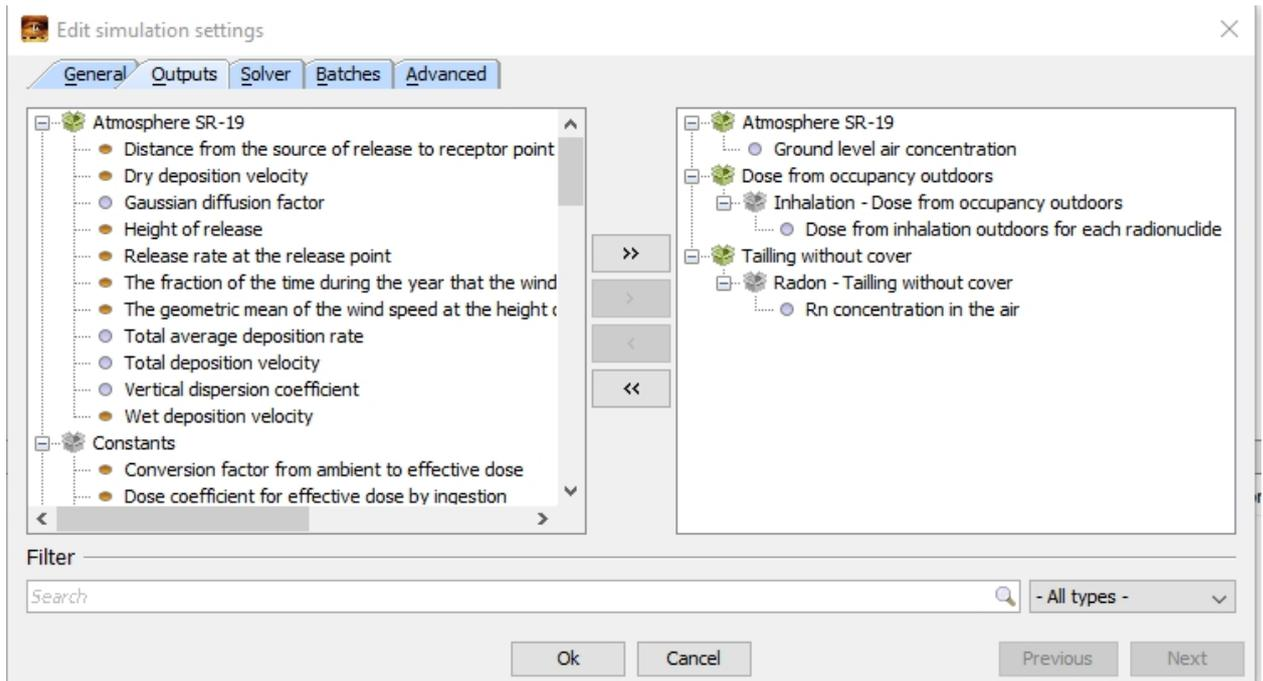

FIG 16. '*Edit Simulation Settings*' window with selected list of output parameters.
5. The resulting '*Edit Simulation Settings*' window with selected list of output parameters is shown in FIG 16.